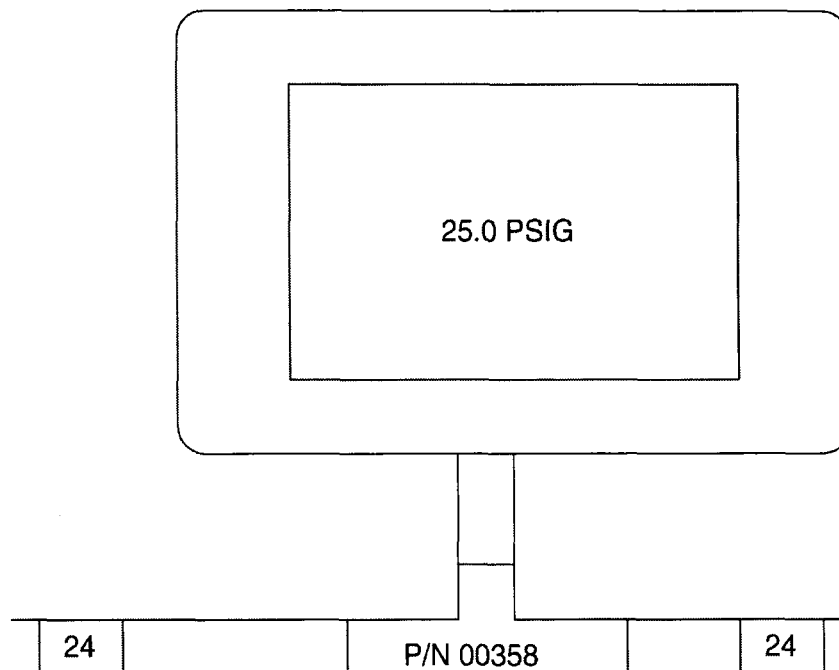

Figure 5.6
- 11.3 Verify pressure regulator by connecting the master manometer to the tubing assembly tube 924 by use of a tee fitting (see figure 5.6).